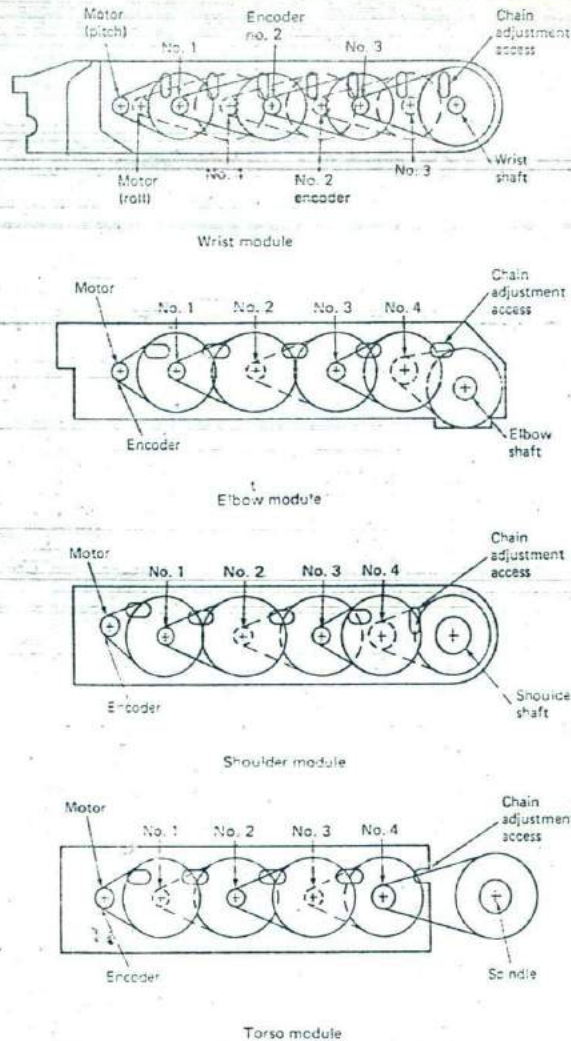

Fig. 15-20 Chain drive stages of the M50 robot.
Air motors are high-speed, low-torque actuators. Some type of speed reduction system is required for robotic applications. Figure 15-20 shows the chain
13. The chain drives shown in Fig. 15-20 produce a _____ reduction.